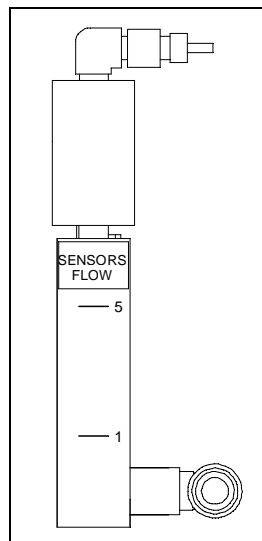

**Figure 35: Correct Sensors Flow Flowmeter Fitting Orientation**
13. Put new Teflon tape on the flow switch fitting and screw it into the top of the new flowmeter. Be sure the flow switch ends up in the orientation shown in Figure 35 below.
14. Put new Teflon tape on the L-shaped bottom fitting and screw it into the bottom of the new flowmeter. Be sure the fitting ends up in the orientation shown in Figure 35 below.